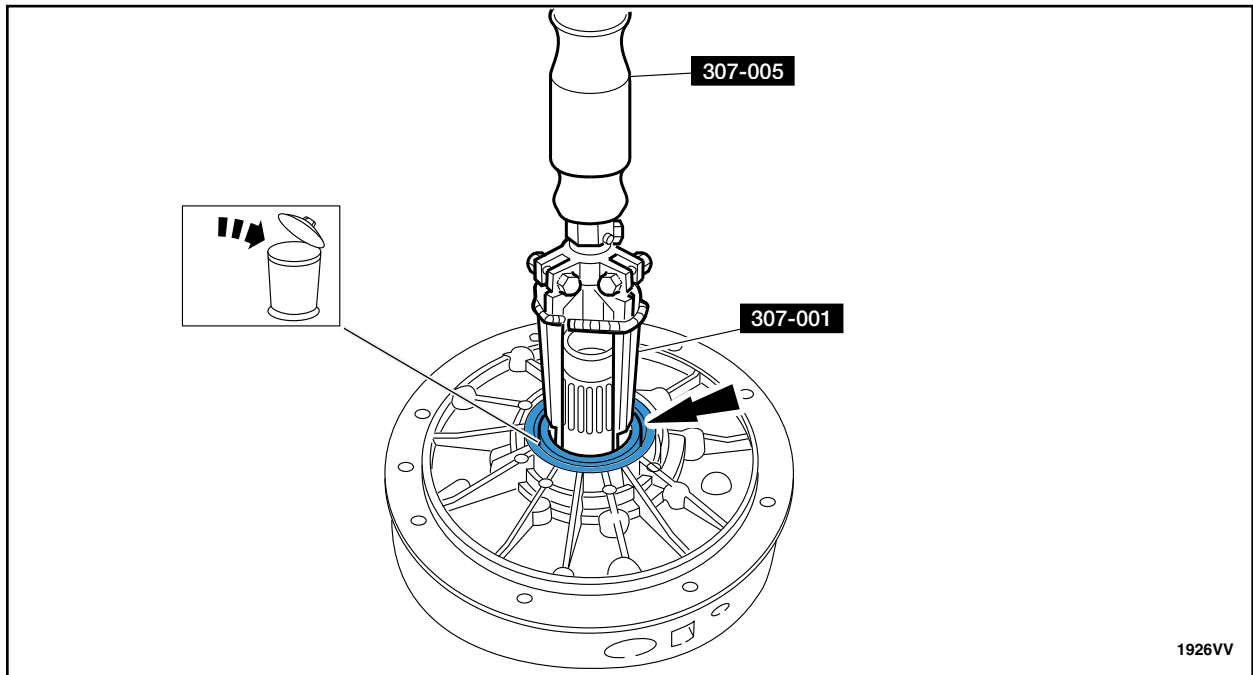

FIGURE 42
39. Using the Bushing Remover (307-001) and Slide Hammer (307-005), remove and discard the front pump fluid seal. See Figure 42.